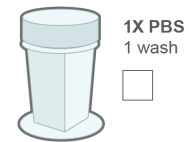

Figure 110: 1X PBS Wash
5. Following nuclear stain incubation, **wash slides for 5 minutes** in 1X PBS (Figure 110).